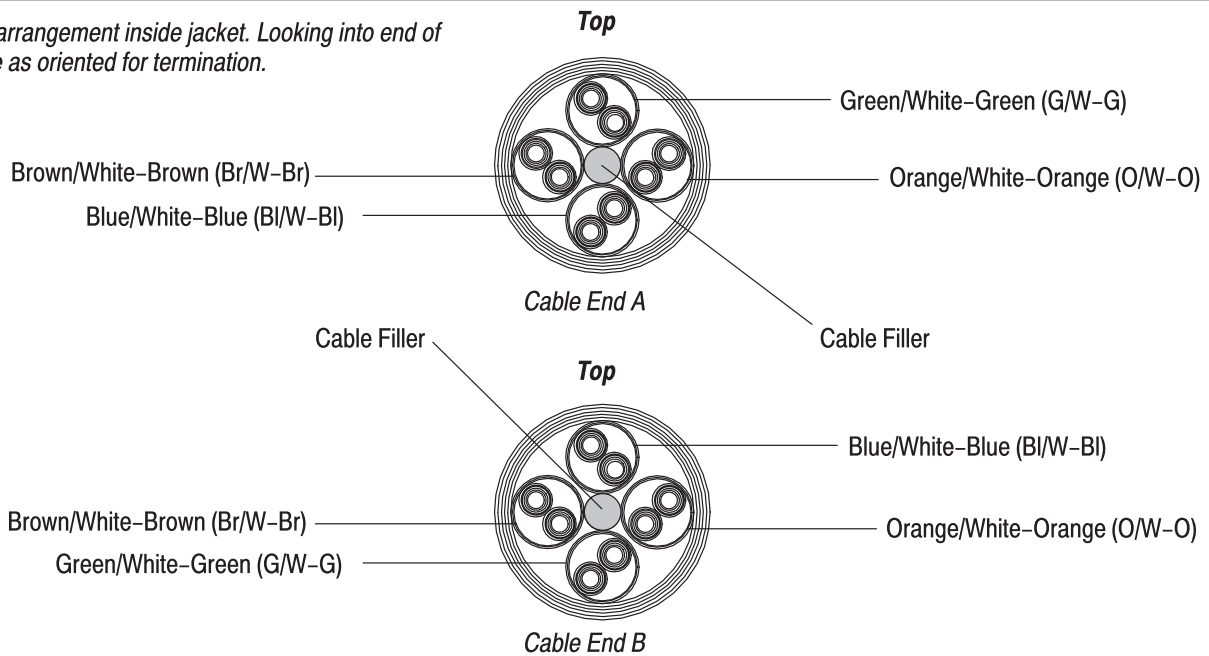

Figure 2
6. Cable Pair Arrangement: The arrangement of color-coded pairs within the cable jacket applicable to TIA/EIA T568B wiring and the termination procedures described in this specification is shown in Figure 2. Cable end A applies to one end of the cable and cable end B to the opposite end. For TIA/EIA T568A wiring or termination of cables with pair arrangements other than shown in Figure 2, contact the responsible Tyco Electronics Engineering Department.